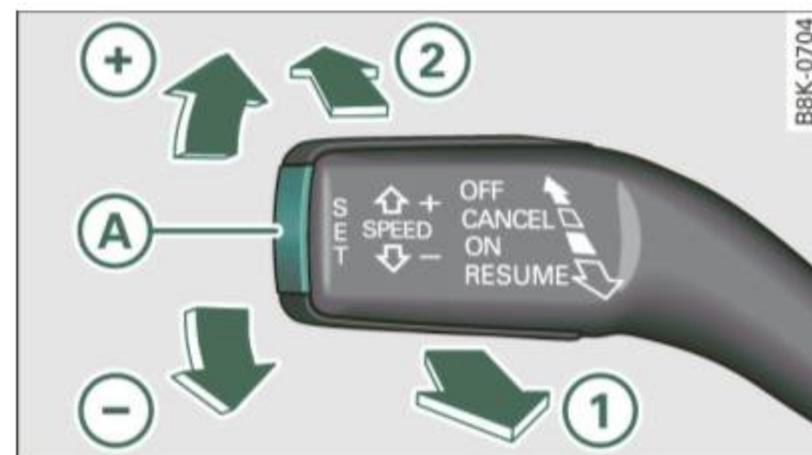

Fig. 118 Control lever with push-button
- Pull the lever to position ① ⇒ fig. 118 to switch the system on.
- Press button ② to set that speed.
- Press the lever in the direction of the **+** ⇒ *page 112, fig. 118* or in the direction of the **-** to increase or decrease your speed.
- Pull lever into position **1** ⇒ *page 112, fig. 118*.
- Press the lever into position **2** (not clicked into place) ⇒ *page 112, fig. 118*, or